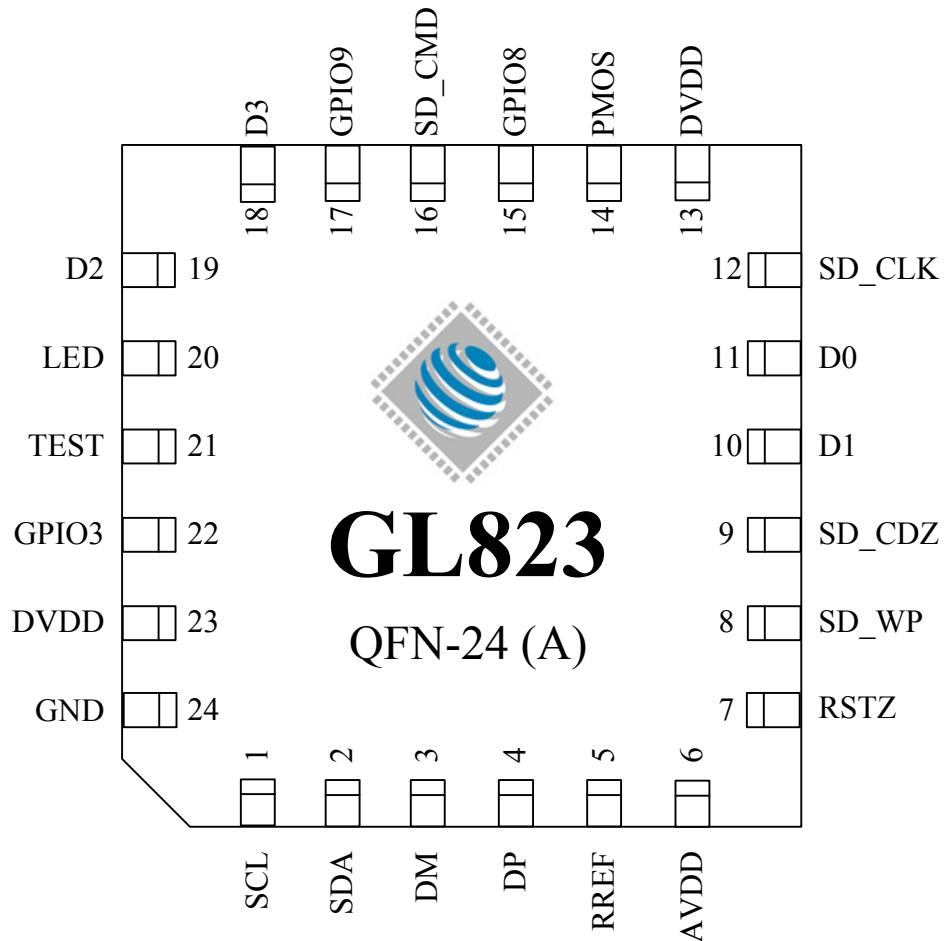

Figure 3.2 - 24 Pin QFN (A) Pin out Diagram
| Figure 3.2 - 24 Pin QFN (A) Pin out Diagram | 9 |